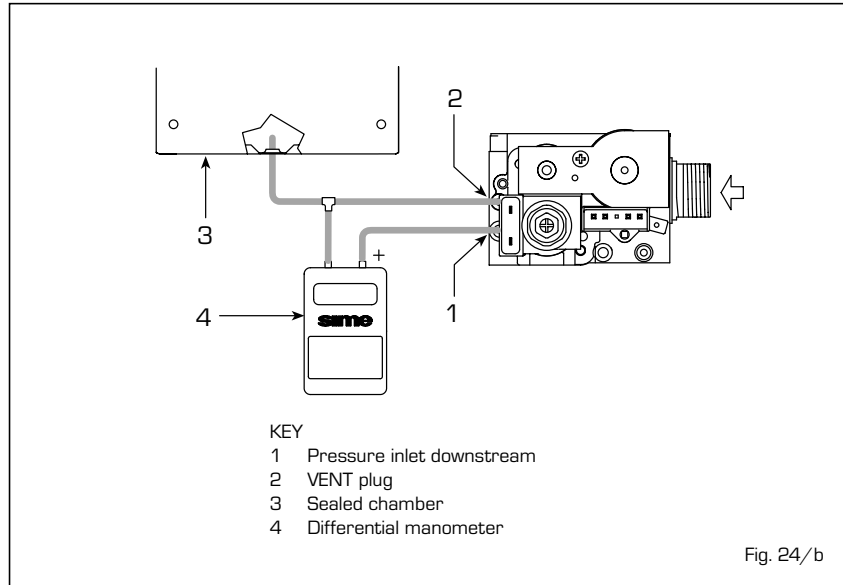

Fig. 24/b
The boiler is produced with SIT 845 SIGMA gas valve (fig. 24) and HONEYWELL VK 8105N gas valve (fig. 24/a).
- Connect the differential manometer as shown in fig. 24/b.
- Remove the plastic cap of the modulator (1).
- Using a \varnothing 10 wrench turn the nut (3) to find the maximum pressure as shown in *Table 6*: to reduce the pressure turn the nut anti-clockwise, to increase the pressure turn the nut clockwise.
- Disconnect the electricity supply and remove the plastic cap of the modulator (1).
- Using a \varnothing 9 wrench turn the nut (2) to find the minimum pressure as shown in *Table 6*: to reduce the pressure turn the nut anti-clockwise, to increase the pressure turn the nut clockwise.